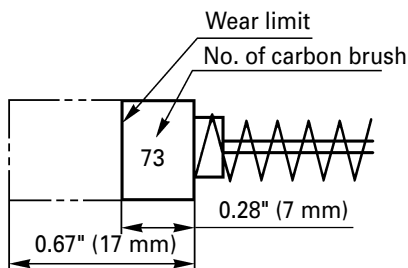

Fig. 10
3. Inspecting the carbon brushes: (Fig. 10)
Use HITACHI carbon brush No. 73 indicated in Fig. 10